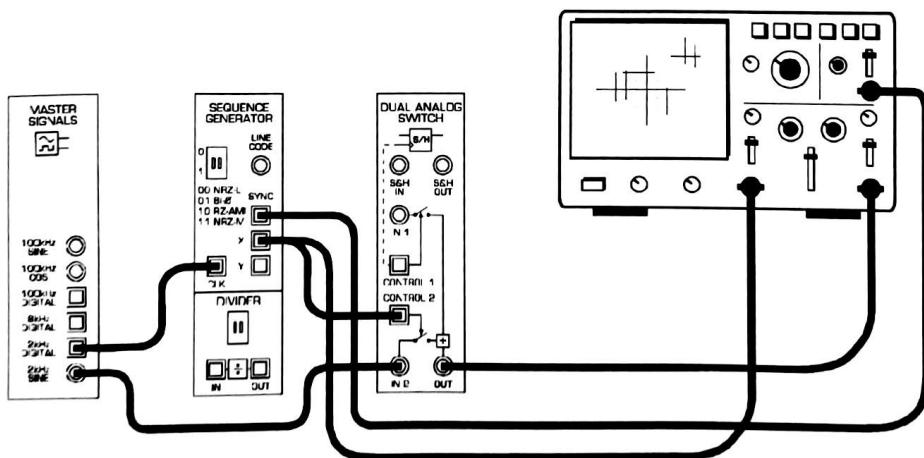
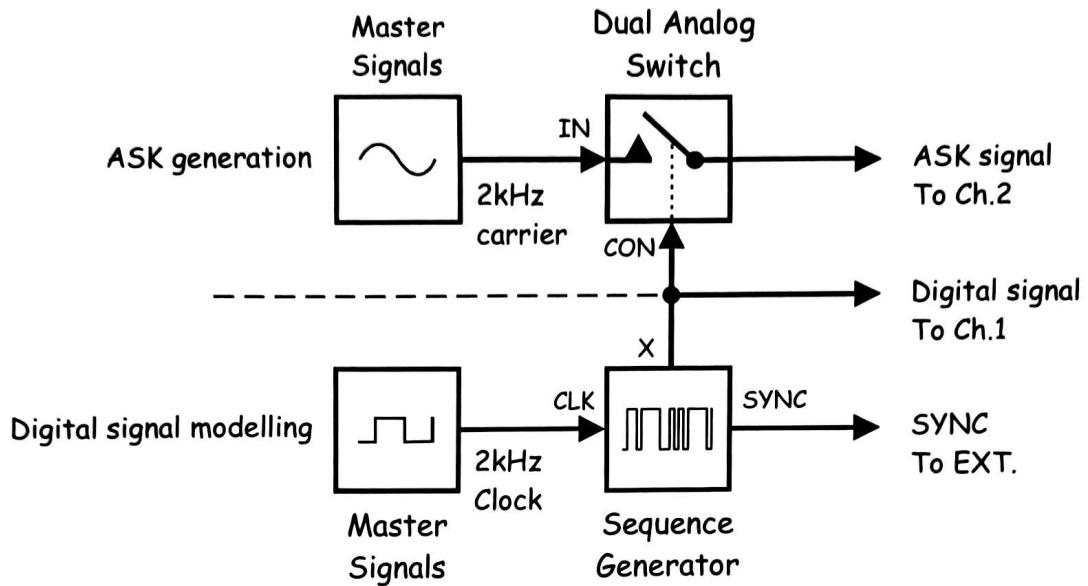

Figure 2
Figure 3
7. Connect the set-up shown in Figure 2 below.
The set-up in Figure 2 can be represented by the block diagram in Figure 3 below. The Sequence Generator module is used to model a digital signal and its SYNC output is used to trigger the scope to provide a stable display. The Dual Analog Switch module is used to generate the ASK signal.